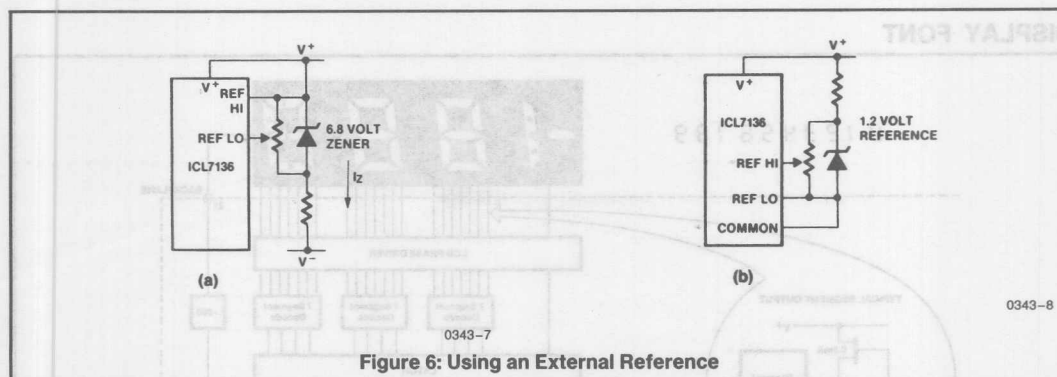

Figure 6: Using an External Reference
The limitations of the on-chip reference should also be recognized, however. The reference temperature coefficient (TC) can cause some degradation in performance. Temperature changes of 2°C to 8°C, typical for instruments, can give a scale factor error of a count or more. Also, the COMMON voltage will have a poor voltage coefficient when the total supply voltage is less than that which will cause the zener to regulate (<7V). These problems are eliminated if an external reference is used, as shown in Figure 6.